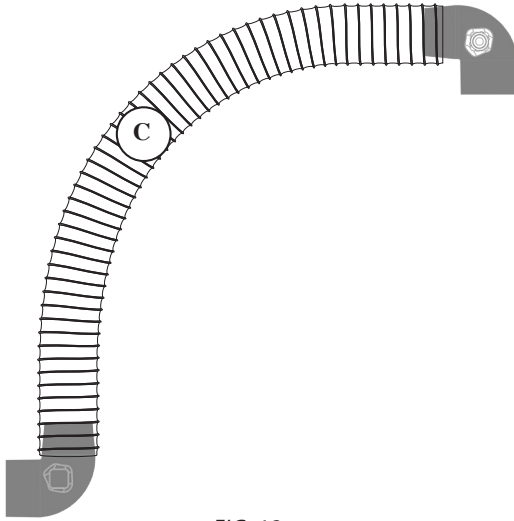

FIG. 12
- 12** Affix Vacuum Hose (C) onto 2" SD Elbow (G7) . Attach the other open end of Vacuum Hose (C) onto the tapered end of the 2" SD Elbow with Straight Fitting (G8) [FIG. 12].